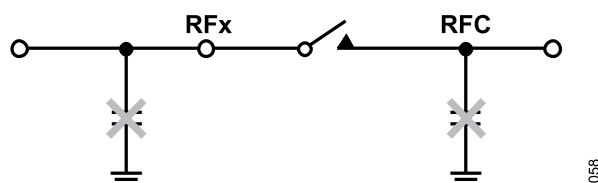

Figure 64. Avoid Large Capacitor Directly Connected to the Switch
- ▶ Avoid connecting capacitive terminations directly to the switch, as shown in Figure 64. A shunt capacitor can store a charge that can potentially lead to hot switching events when the switch opens or closes, affecting the lifetime of the switch.